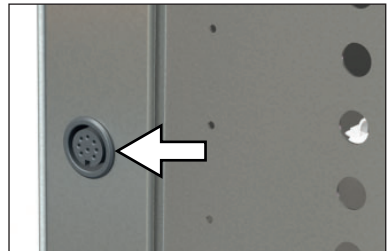

Fig. 8 Switching output
The 8-pin switching output on the rear right post (Fig. 8) is used to control the vacuum pump of the optional pump module (PM) through the vacuum oven (VO). The switching output is backwards-compatible with the 3-pole contact of older pump modules. For this purpose, plug the 3-pole cable into the 8-pole contact.